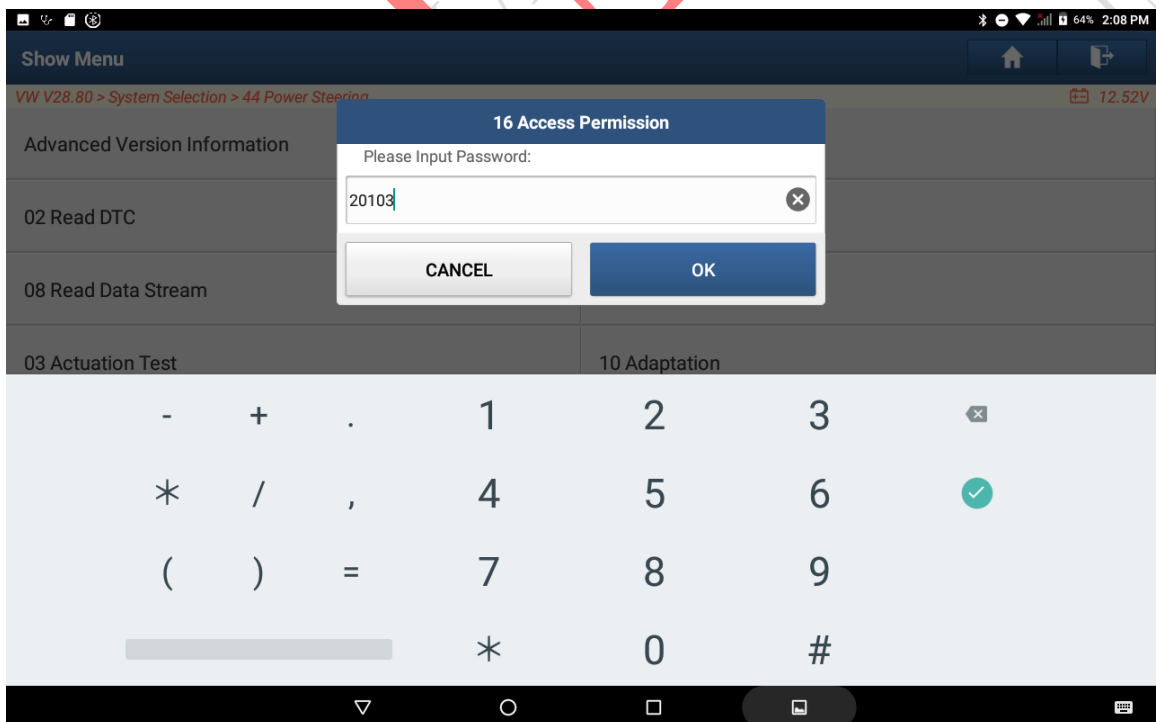

Figure 3
- First perform [16 Access Permission], and input “20103”. See Figure 3. Perform the next step after successful login.